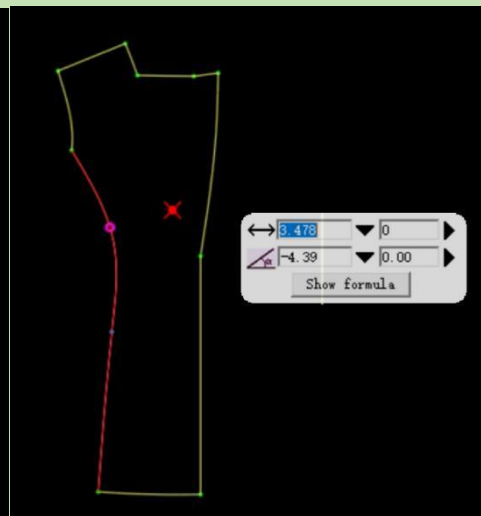

Figure4-88
3. Move the mouse to draw the dart line perpendicular to the dart opening line (note that the angle can be modified). You can either click the left mouse button in the blank area to determine the dart tip, or click the left mouse button on a known point to determine the dart tip (Figure 4-88).